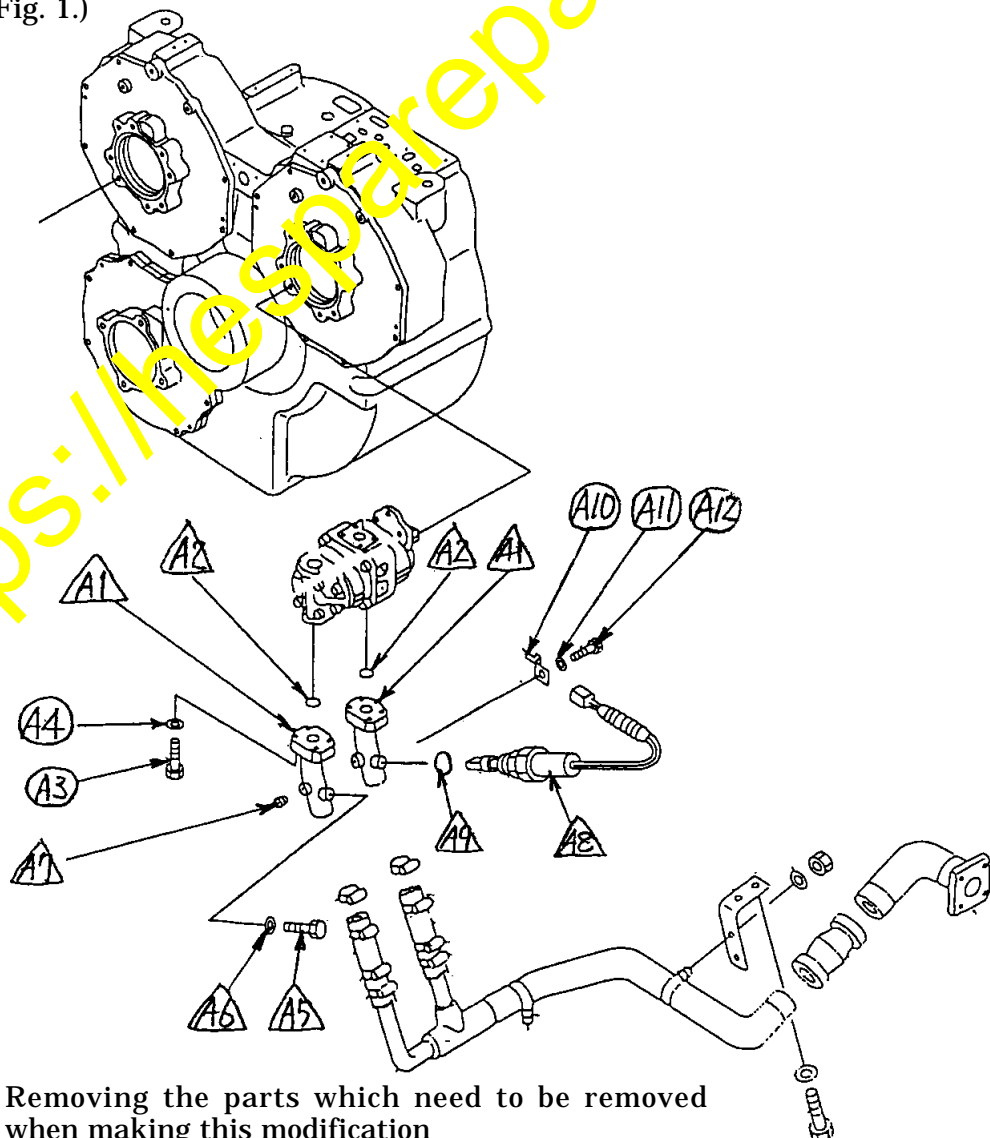

Fig. 1 Removing the parts which need to be removed when making this modification
- 1) Remove the suction line tubes from the steering pump and from the hoist pump. (Refer to Fig. 1.)